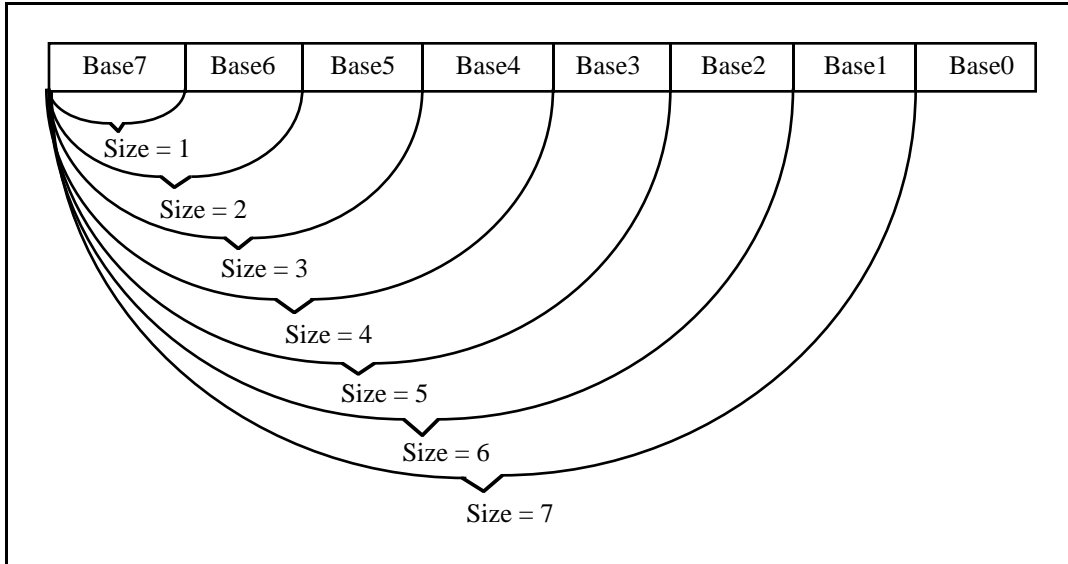
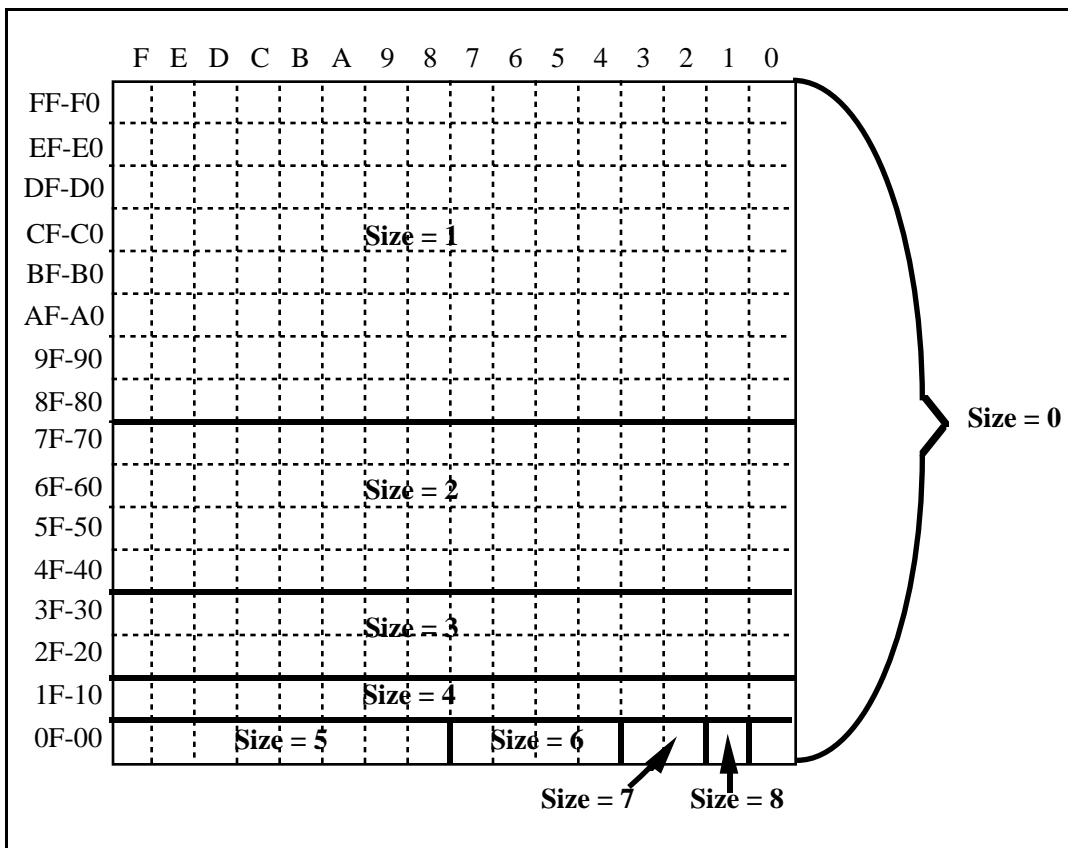
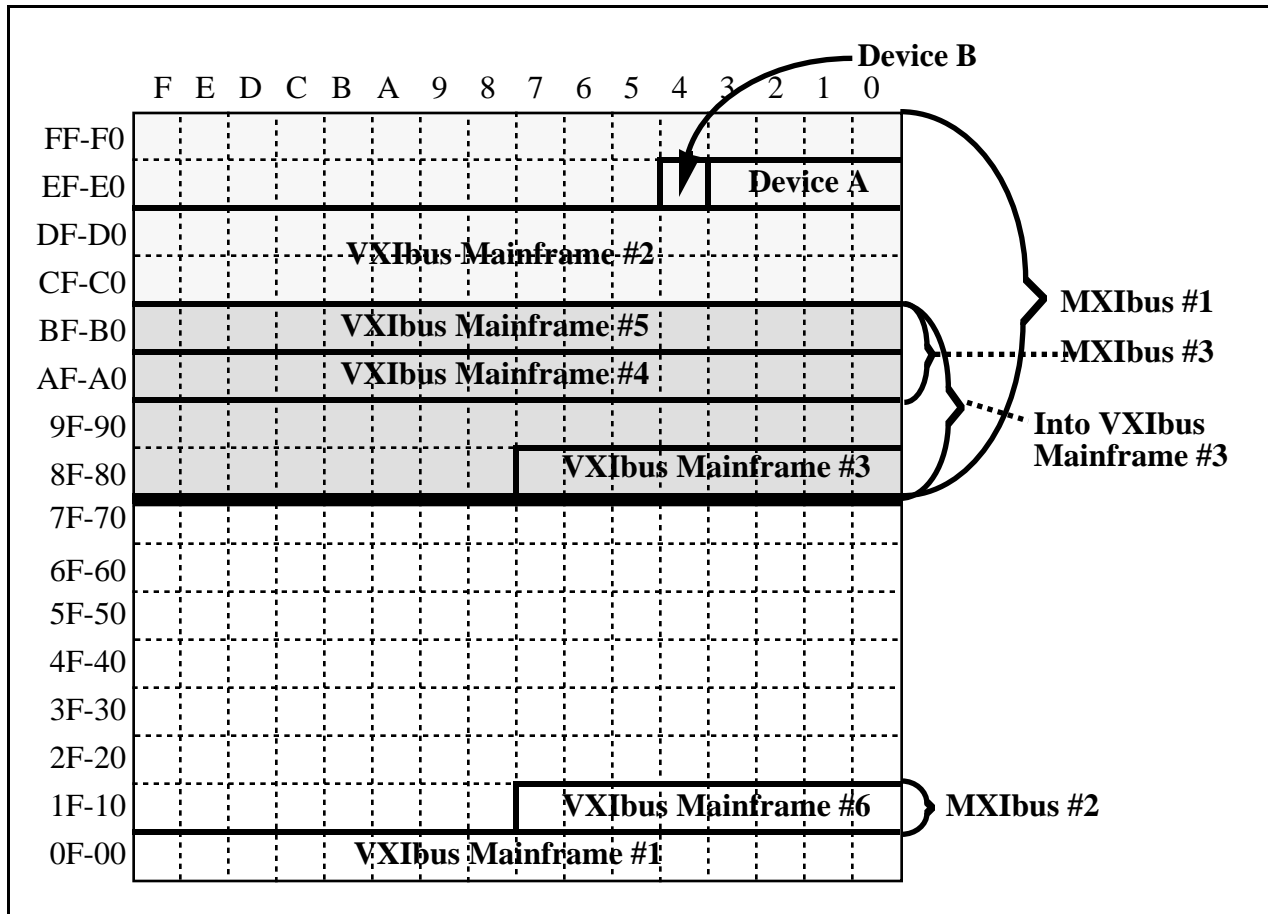

Figure 5-3. Base and Size Combinations
Figure 5-4. Address Range Allocation for Different Size Values
Figure 5-6. Logical Address Map Diagram for Example VXIbus/MXIbus System
Table 5-1 shows which bits are compared for each Size setting and the resulting address range in hex if Base is set to 0 and hex 55. Figure 5-3 further illustrates the number of bits of the Base that are compared for each Size value. Notice that if Size = 0, no bits are compared. Figure 5-4 shows the address range allocation for different Size values.
8. Determine the range of addresses that will be occupied by the root device and each first-level device and MXIbus link. For Base/Size systems, use the Logical Address Map Diagram shown in Figure 5-6 to visualize the logical address map for the system. Each square in this diagram represents one logical address. The maximum number of logical addresses in a system is 256 and address ranges are assigned in blocks divisible by a power of two. Refer to Table 5-1 and Figure 5-4 for example logical address allocations for different Size values.